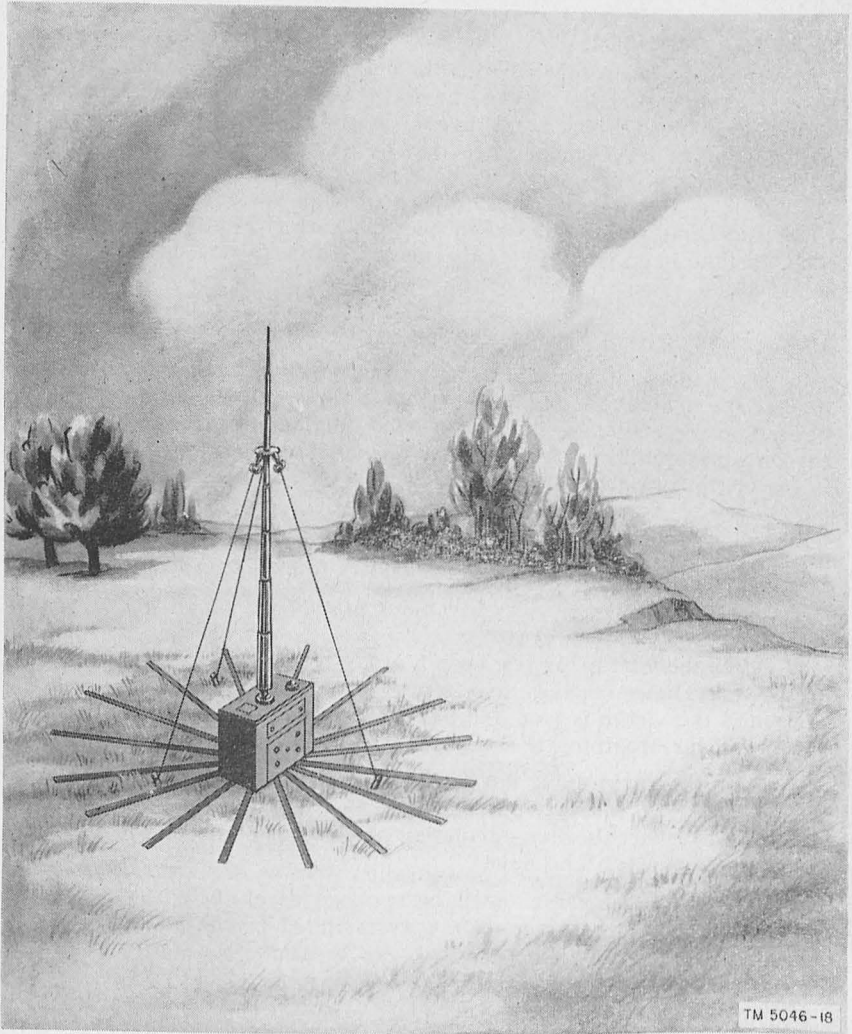

Figure 1. Homing Beacon AN/CRN-12.
*a.* Homing Beacon AN/CRN-12 (fig. 1) is essentially a radio beacon, sometimes called a marker transmitter. It radiates a coded signal which may be used to guide personnel to the location of the transmitter by homing on the signal. The receiving equipment, which may be Radio Set SCR-536 that has been modified for use with Homing Beacon AN/CRN-12 by means of Homing Modification Kit MC-619 (TM 11-235), is not a part of this equipment.